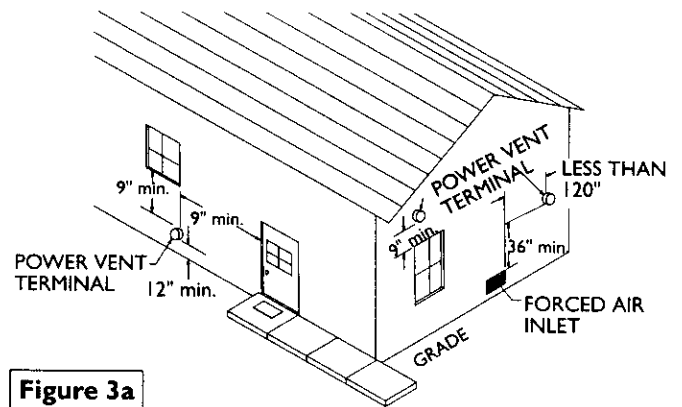

Figure 3a
- The Power Vent outlet terminal shall terminate at least 36" above any forced air inlet located within 10 feet. Figure 3a.
- The Power Vent outlet terminal shall terminate at least 9" below, 9" horizontally from or 9" above any door, window or gravity air inlet into the building. Figure 3a.